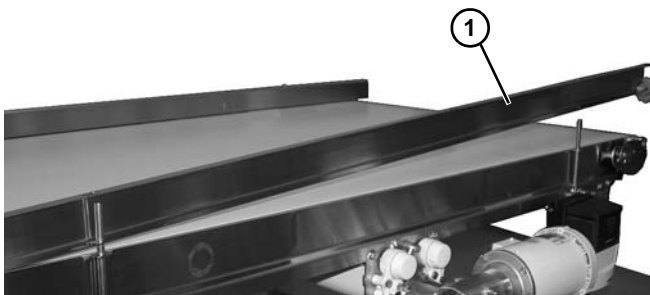

Figure 99
1. Remove guides (**Figure 99, item 1**) when required.